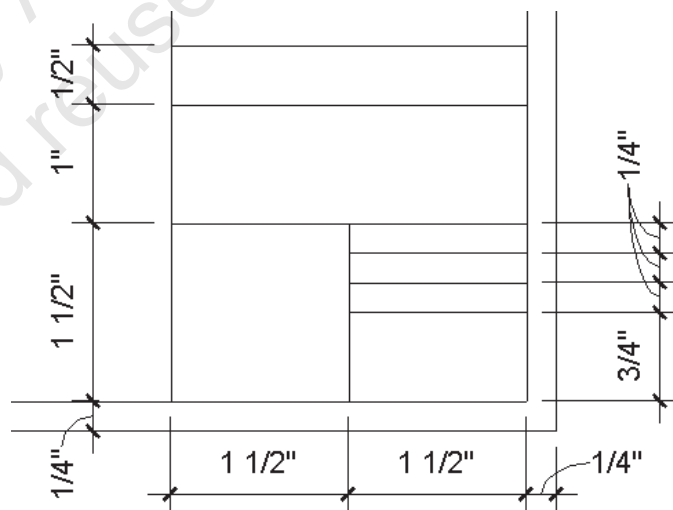

Figure 1–97
5. Draw lines in the lower right corner of the title block, as shown in Figure 1–97.